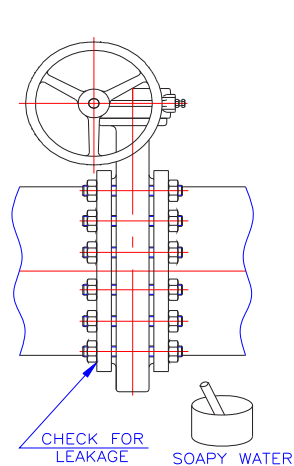

Fig.27
**17.2.8** After installed the valve in the pipeline, check leakage of flange connecting faces by using compressed air. (Fig.27)